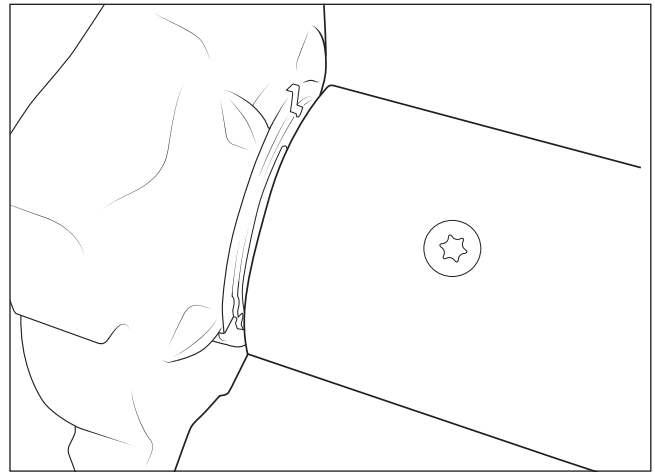

Figure 12
2. Slide the winch motor back **NOT MORE THAN 3/8"** (fig. 12).